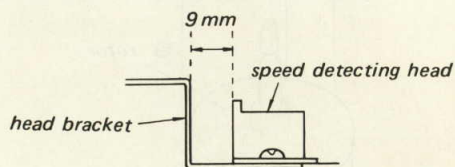

Fig. 3-4.
1. Install the speed detecting head on the head bracket with two PSW 3x6 screws as shown in Fig. 3-4.